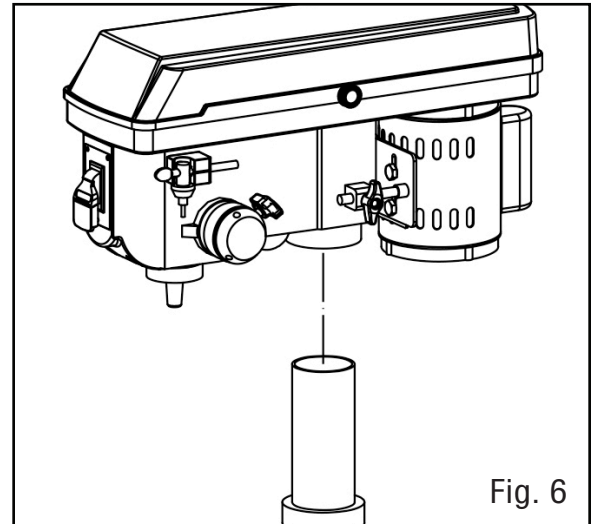

Fig. 6
See Fig. 6
1. Carefully lift the drill press head assembly and position it over the column (Fig. 6).